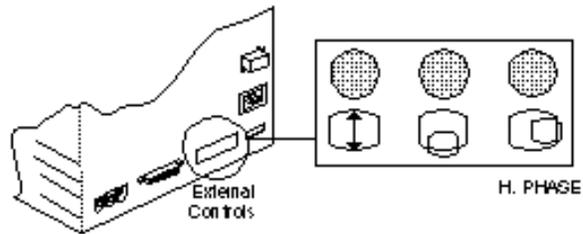

FIGURE 9
1. Using the insulated plastic screwdriver, turn the horizontal center (H.PHASE) control **(Figure 9)** until the raster is centered (left to right) in the display area.